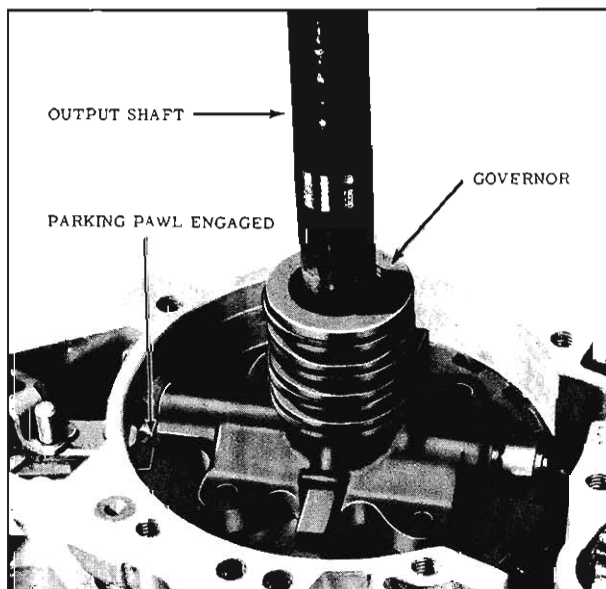

Fig. 6-103 Installing Governor
4. Engage parking pawl. (Fig. 6-103)